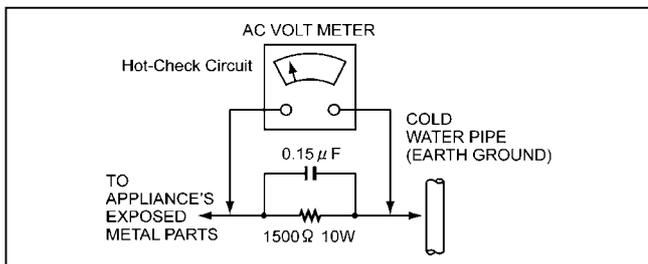

Figure1
## LEAKAGE CURRENT HOT CHECK (See Figure 1)
2. Connect a 1.5K $\Omega$ , 10W resistor, in parallel with a 0.15 $\mu$  F capacitor, between each exposed metallic part on the set and a good earth ground such as a water pipe, as shown in Figure1.